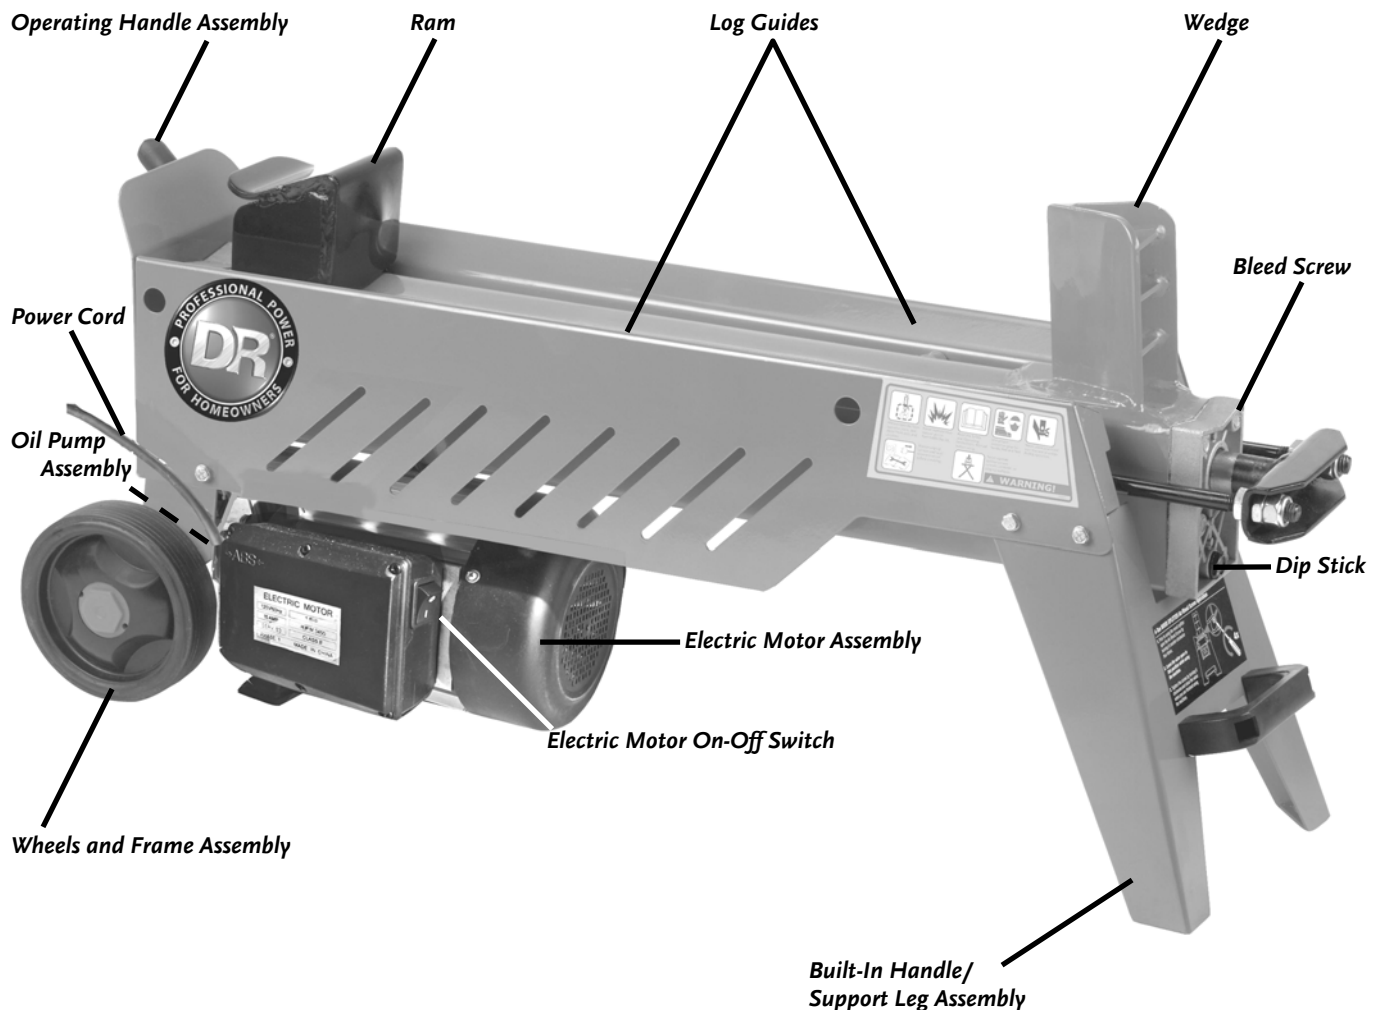

Figure 1
**NOTE:** The model shown in Figure 1 may look slightly different from your machine.